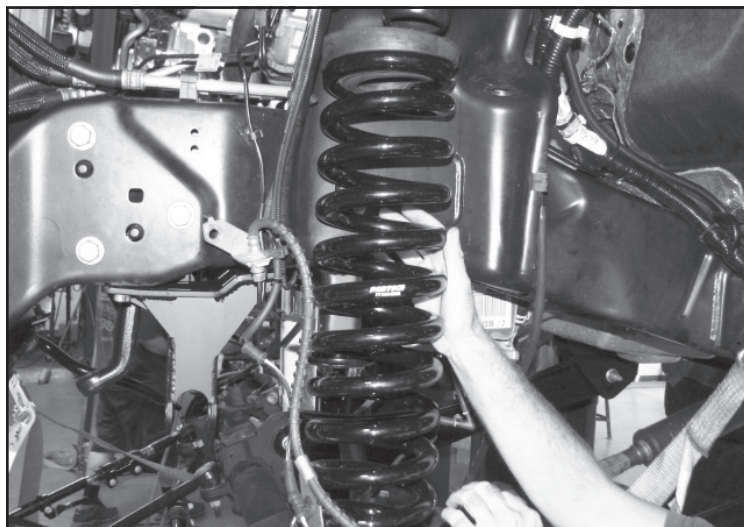

FIGURE 13 - STEP 18
18. Install FT30123BK (Coil Spring) using the factory upper isolator. **SEE FIGURE 13**